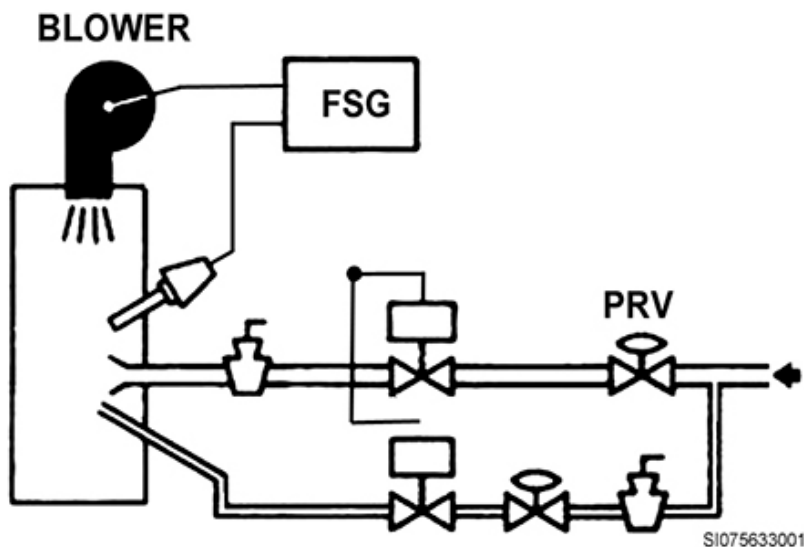

Figure 1-17. Blower location to eliminate leaking gas.
To eliminate any gas leakage problem, you need a blower to get rid of any accumulated unburned gas before you light the burner (fig. 1-17). The motor that drives the blower is a burner motor. Now during startup, the flame safeguard control signals the blower to blow air through the combustion chamber and clear out the gas, this is called purging.
That completes the mechanics of our valve train. In figure 1-17 notice how much smaller the pipes are in the pilot line than in the main burner line. Also notice that the blower is located right here at the end where it can blow straight through the whole combustion chamber. This also shows the location of the flame detector or FSG. Wire the detector to a flame signal amplifier on the programming control.
- The pressure-regulating valve is next. This valve is about 1½ feet in diameter and is identified by a flat oval shape symbol, see figure 1-17.